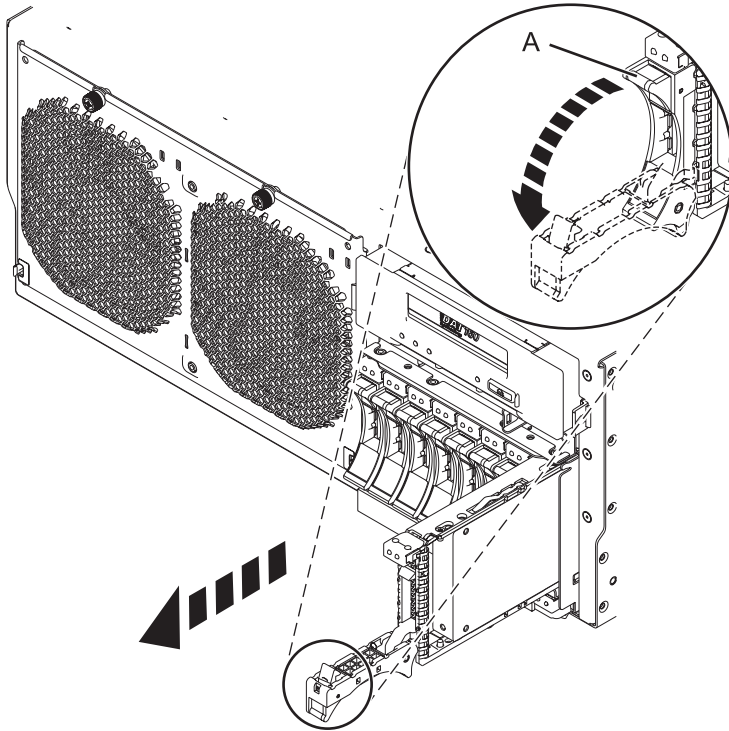

Figure 39. Removing a disk drive from the system
1. Unlock the drive handle by squeezing it and pulling it out toward you, as shown in Figure 39 on page 60. If the handle is not all the way out, the disk drive or solid-state drive cannot slide out of the system or out of the expansion unit.